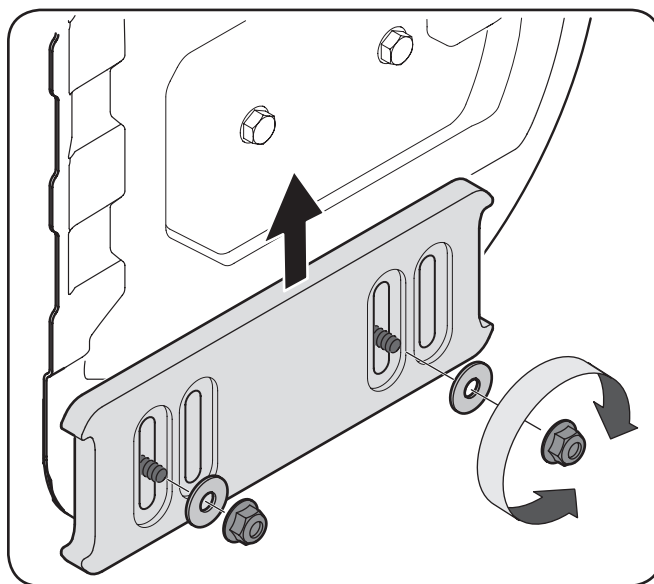

Figure 3-13
1. Loosen the four hex nuts (two on each side) and carriage bolts. Move the skid shoes to the desired position. See Figure 3-13.